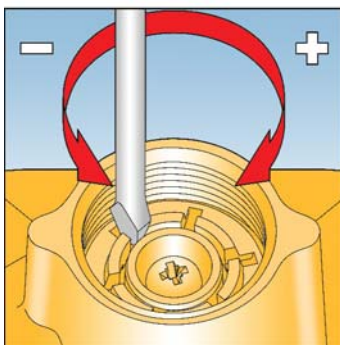

Fig. 12
3. Fully unscrew and remove top spring holder. See Fig. 12.
5. Screw spring holder back in place, ensuring that castellated spigot is uppermost in chimney. See Fig. 12.